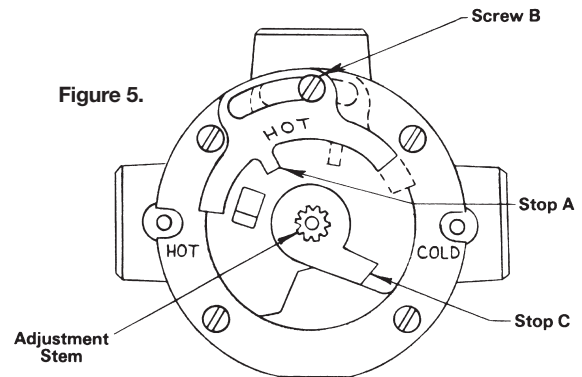

Figure 5.
If bottom outlet (or reversed outlets) is required, place mixer stem in closed position (full clockwise) and remove O-ring and Stop C (Figure 5). Rotate stem  $180^\circ$  and replace stop in its initial position.
6. (Refer to Figure 5.) This must be set on the job. Mixer will pass full HOT water. Loosen screw B (do not remove). Rotate stem to get desired maximum temperature. Move stop A until it touches stop C. Tighten screw B.